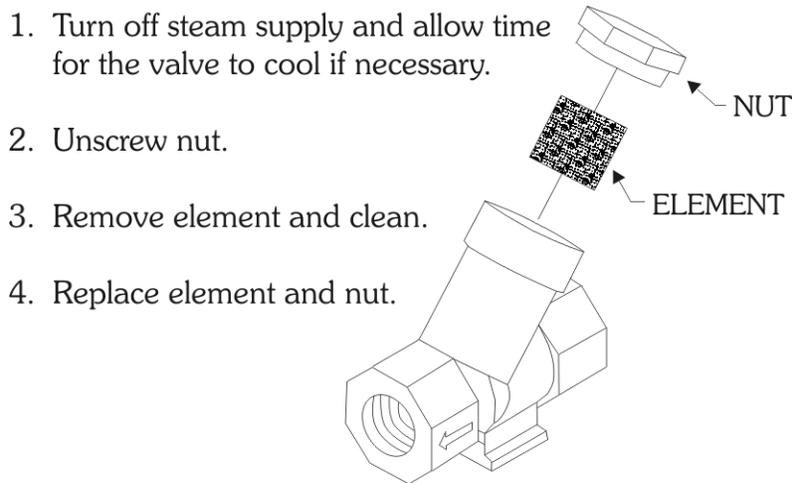

Figure 6.3: Steam Trap Service
4. Clean steam filter, where applicable. See figure 6.3.